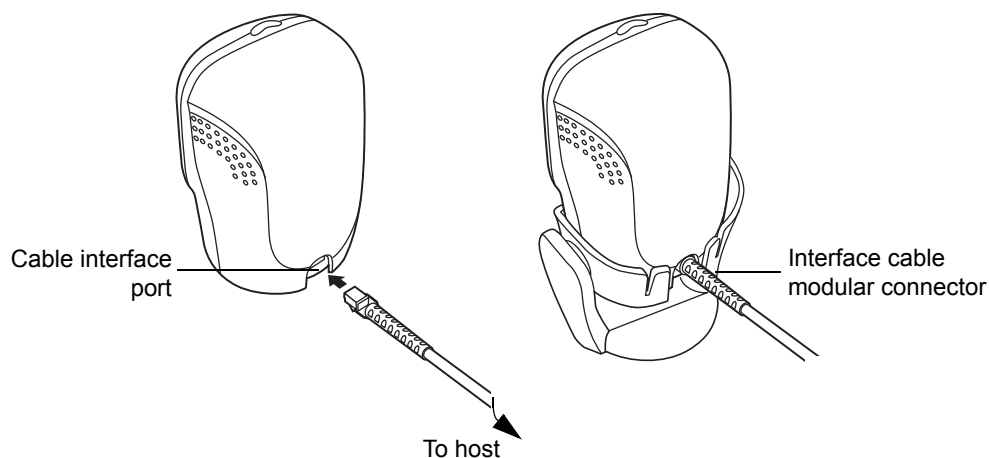

Figure 1-2 *Installing the Interface Cable*
2. Plug the interface cable modular connector into the interface cable port on the rear of the scanner (see Figure 1-2).